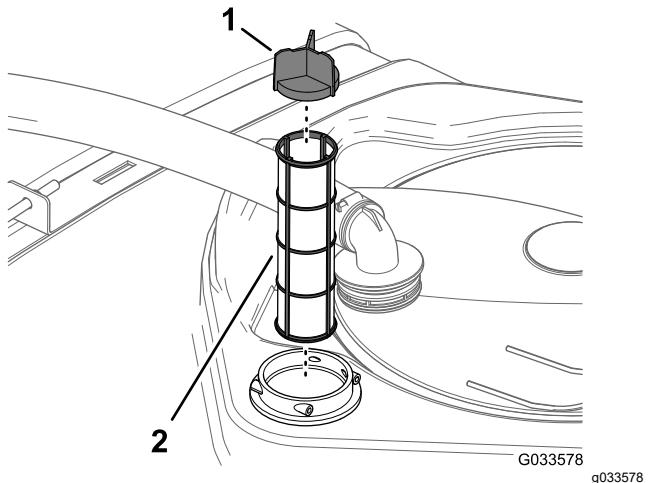

Figure 147
4. Remove the old suction filter from the filter housing in the tank (Figure 147).